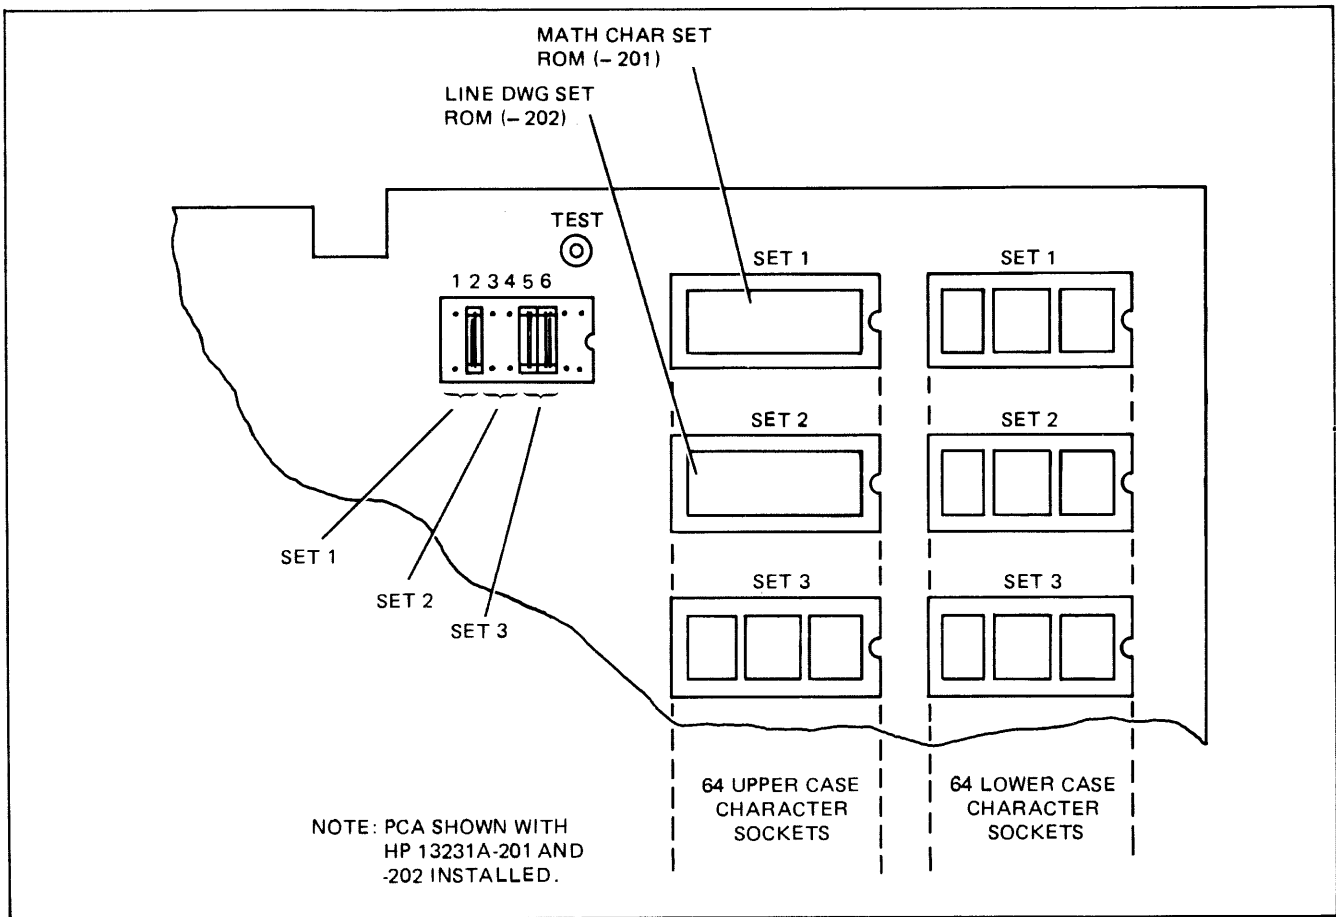

Figure 1-4. Display Expansion PCA Jumper and ROM Socket Locations
- a. Using figure 1-4 and table 1-1 as a guide, check that Display Expansion PCA jumpers are arranged correctly for the ROM character set configuration. If there are no alternate character set ROM's installed (HP 13231A), all jumpers should be in the jumper socket.
- d. When connected to the Display Expansion PCA, the PROM Character PCA character sets 1 and 2 replace the Display Expansion PCA character sets 1 and 2, respectively. If an alternate set(s) is to be replaced, first determine if the user generated PROM set(s) is alphanumeric or microvector. Then, using table 1-1 and figure 1-4 as a guide, correctly arrange Display Expansion PCA jumpers 2 and 4 for the PROM character set type(s). (Jumpers 1 and 3 can either be removed or left installed.)